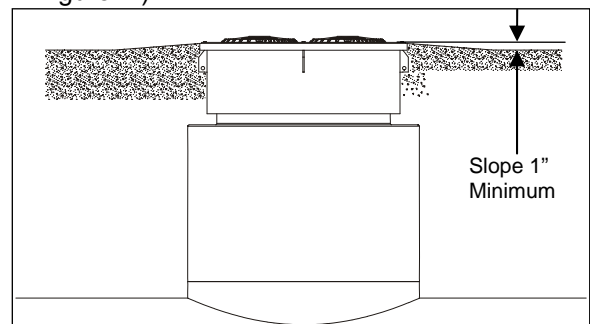

Figure 7
21. It is required that the paved contours around POME multi-port covers be adequately sloped to direct water flow away from the cover, and directing water runoff from adjacent areas away from POME multi-port covers. Minimum slope is 1" from grade to the top of the ring of the manhole. Note that this slope must be taken into consideration when cutting riser lengths in earlier steps. (See Figure 7.)